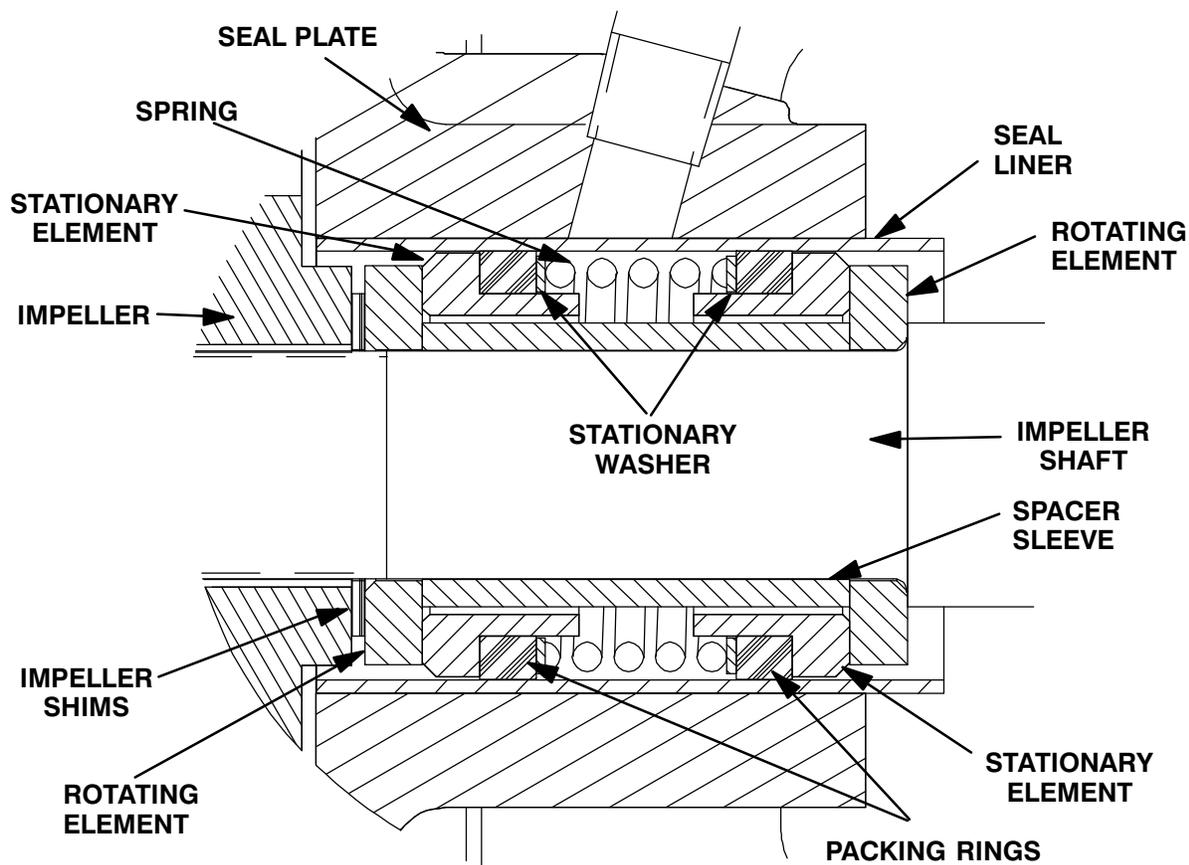

Figure 3. Seal Assembly
To ease installation of the seal, lubricate the seal liner (10) with water or a very **small** amount of oil, and apply a drop of light lubricating oil on the finished faces. Assemble the seal as follows, (see Figure 3).